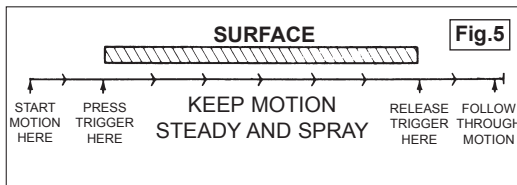

Fig.5
- 4.8 Once you are satisfied with the results of your test pieces and have made any necessary adjustments to the air brush, continue with the task to be performed. Best results are achieved with a good constant motion. Start the motion before pressing the trigger and follow a through motion after releasing the trigger, fig.5.